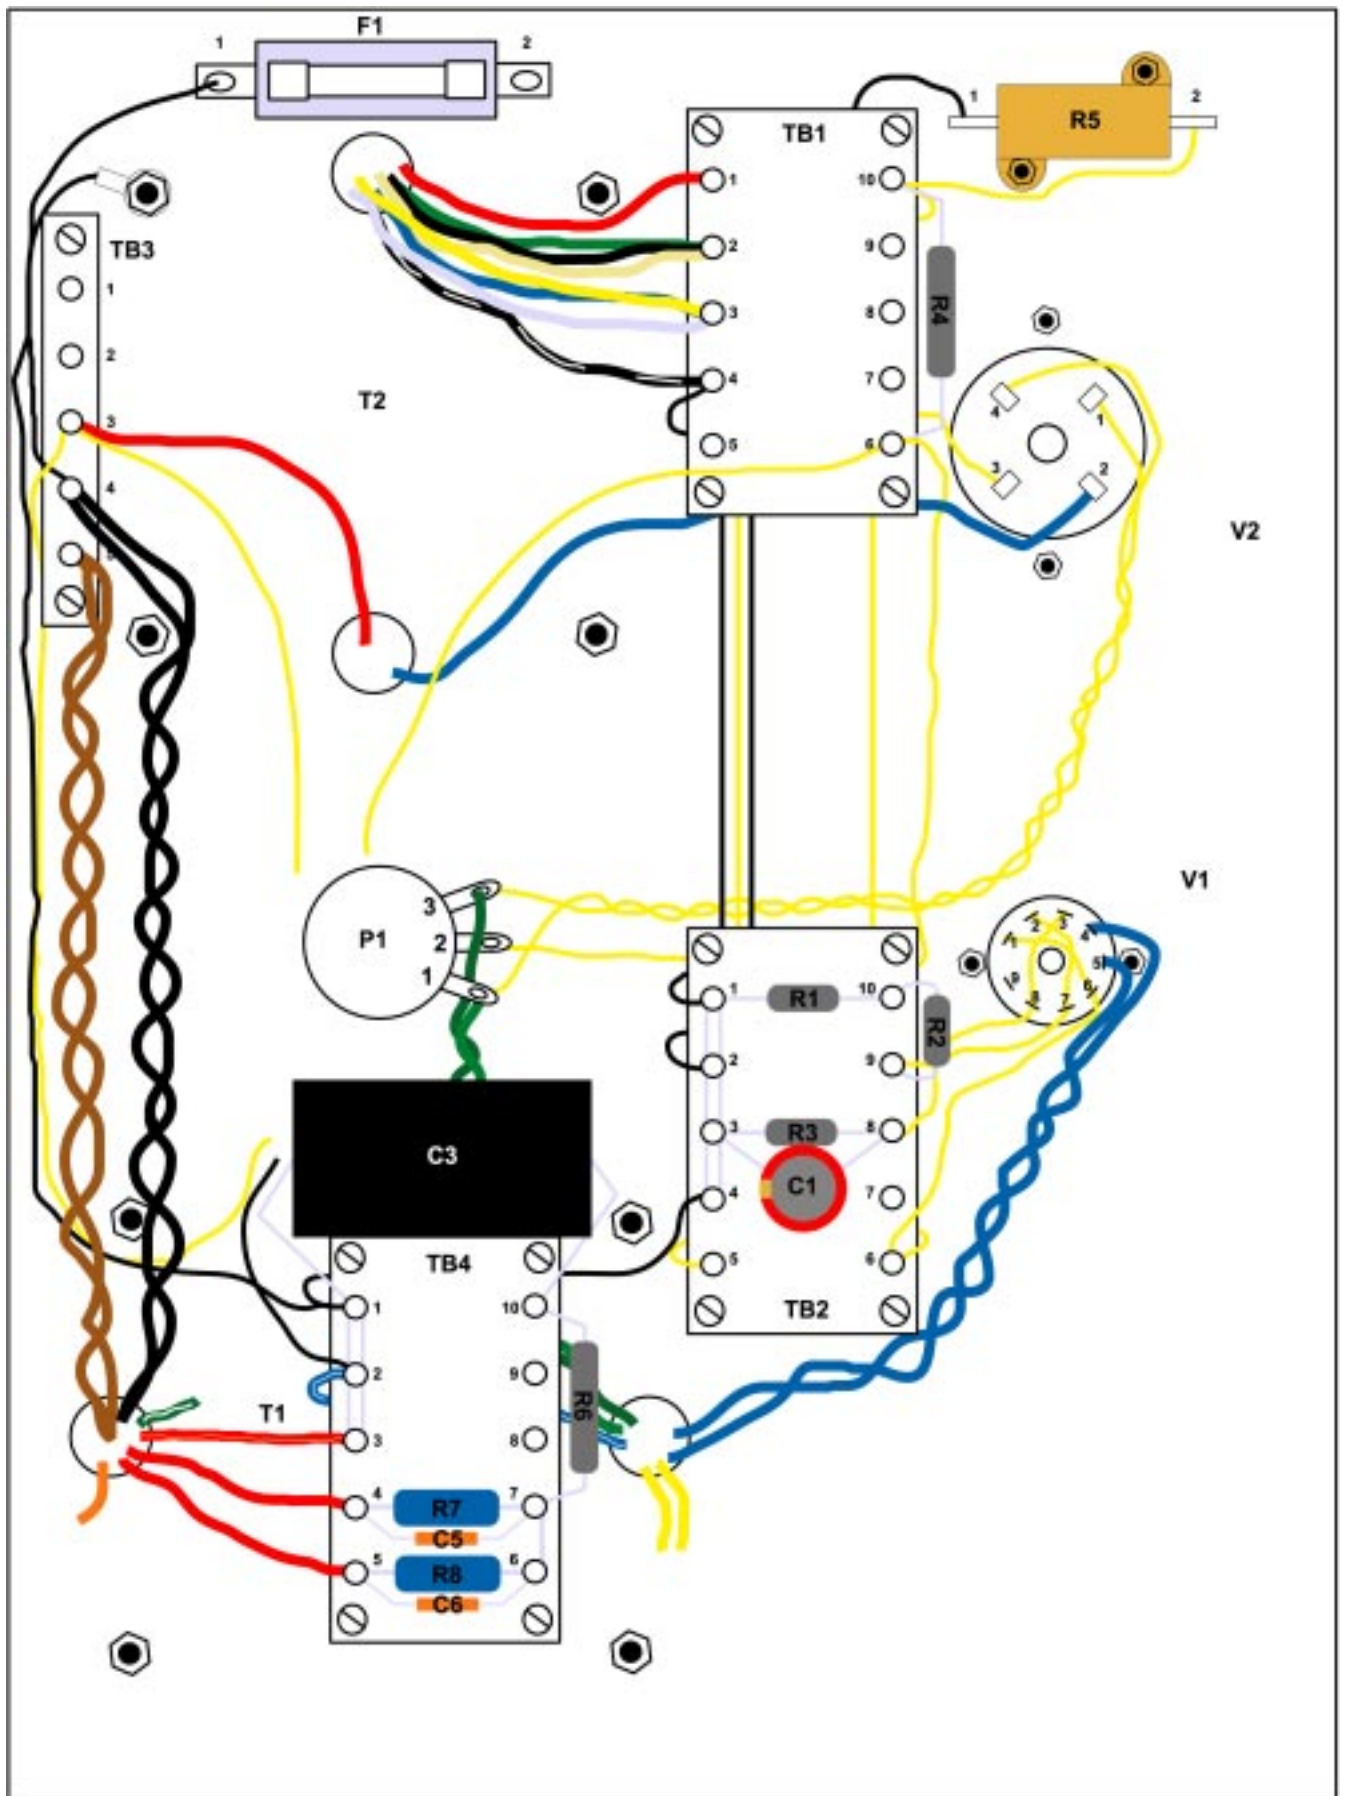

Figure 5
7) Now is a good time to inspect all connections and clean up any solder flux that may have splashed onto the terminal boards, top plate, etc. As the amplifier is populated with more components it becomes more difficult to position the soldering iron without touching already placed parts. It is very important that you be aware of these parts when soldering and not accidentally burn the insulation off an adjacent component or wire. For this next section, refer to figure 5 for all connections.
Cut two pieces of yellow hookup wire to a length of 7 inches. Solder the end of one wire to TB3-3. Solder one end of the other wire to TB1-6. Leave the opposite ends of these wires disconnected as shown in figure 5.
Solder resistor R1 between TB2-1 and TB2-10 as shown in figure 5.